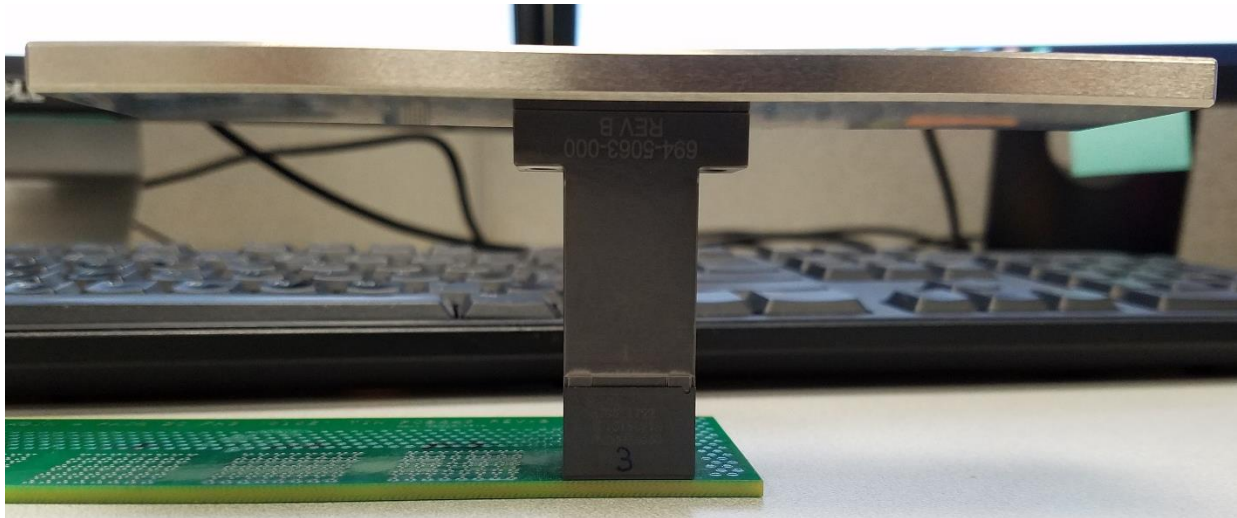

Figure 6: Proper 3 Pair loading head with a 3x8 BMA connector
Step 8. Position the seating head with flat rock plate attached directly on top of the connector, ensuring that the clearance slot is over the signal pins and the rear alignment rib is against the BMA housing ribs (see Figure 6).